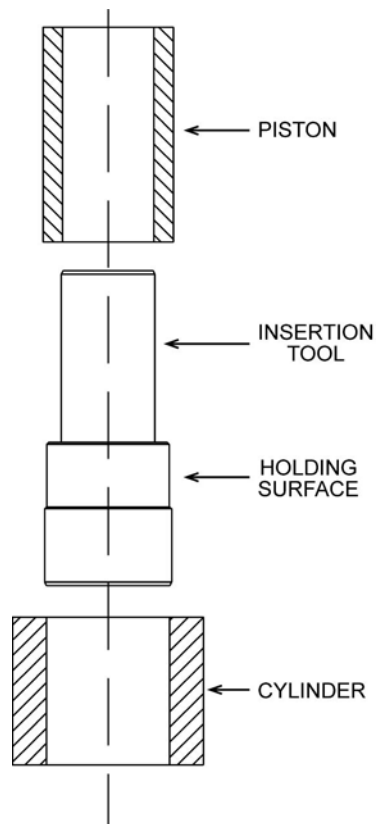

Figure 54. 10 kPa/kg piston insertion tool
- ❺ Remove the main module housing (4) by sliding it upward leaving the piston-cylinder assembly behind.
- ❻ Reinstall the piston cap (2) directly onto the piston head (5).
- ❼ Place the 10 kPa/kg piston insertion tool (see Figure 54) on the work surface with the large diameter down.
- ❽ Holding the cylinder (7) to prevent it from falling out, place the piston-cylinder assembly onto the tool sliding the hollowed end of the piston (6) onto the tool shaft. Carefully allow the cylinder to drop down over the large diameter of the tool. Holding the cylinder, gently remove the piston (6) from the tool. Finally, remove the tool from the cylinder.